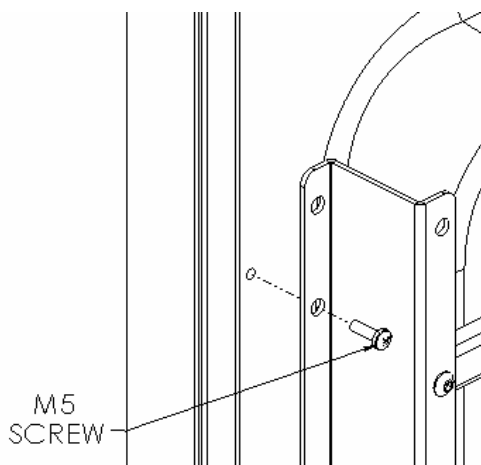
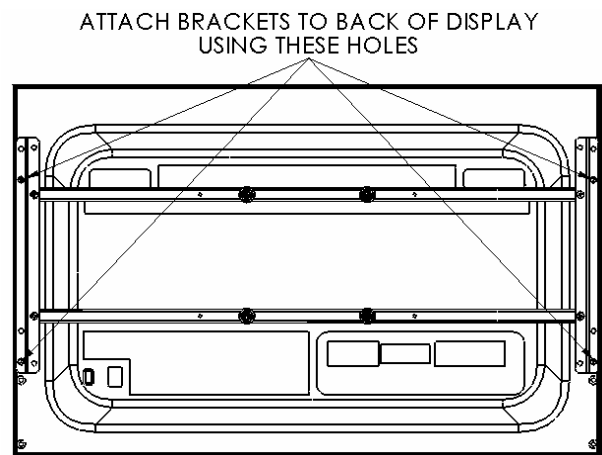

Figure 8
Figure 9
5. **Interface Installation:** Using M5 screws, secure side brackets to display (see Figure 8 & Figure 9). Do not over tighten screws. The 1/4-20 button head cap screws attaching the side and center brackets may need to be loosened in order to line up holes on display. If this is done, please be sure to tighten them once again.